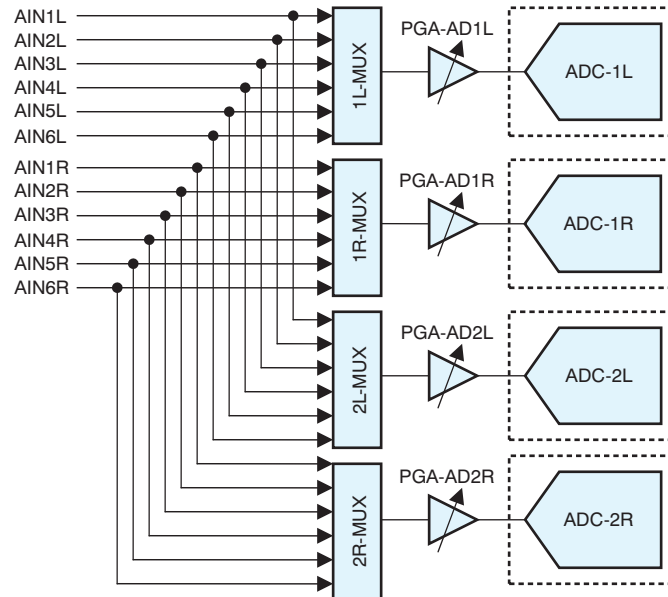

Figure 28. Analog Inputs
The PCM5310 includes a four-channel analog-to-digital converter (ADC) with a programmable gain amplifier (PGA) and six stereo analog inputs with a $2\text{-}V_{\text{RMS}}$ input. Pins AIN1L/1R to AIN6L/6R are connected to the ADC left (L) or right (R) channel through the analog multiplexer (mux) and PGA, as shown in Figure 28. If the analog input voltage level is less than $2\text{ }V_{\text{RMS}}$, it can be amplified by using the PGA. The gain level can be set to 9 dB, 6 dB, or 3 dB. The descriptions for the analog input registers are shown in Table 1.